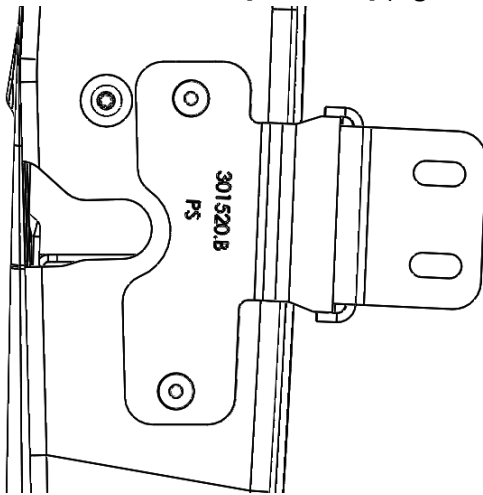

Figure 7: Inner Passenger Door Latch Installed
20. Install inner door bracket using provided countersunk hardware [PN 70458] (Figure 7).